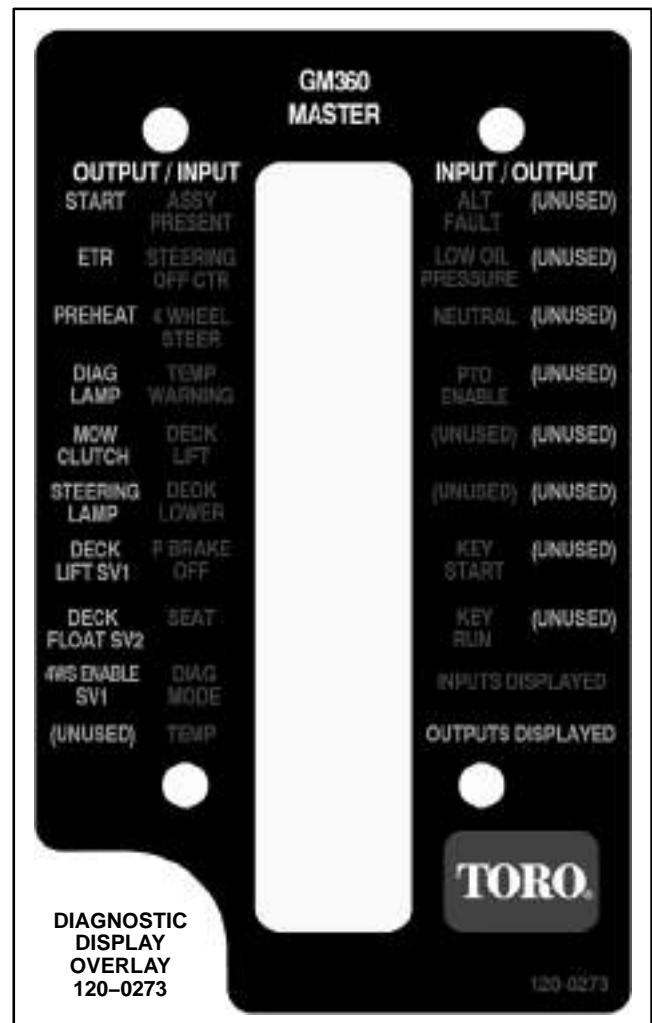

Figure 12
3. Connect the Diagnostic Display connector to the harness connector. Make sure correct overlay decal is positioned on the Diagnostic Display (Fig. 12).